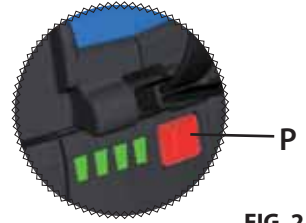

FIG. 2
2.6) Battery status (Ref. to Fig. 2)